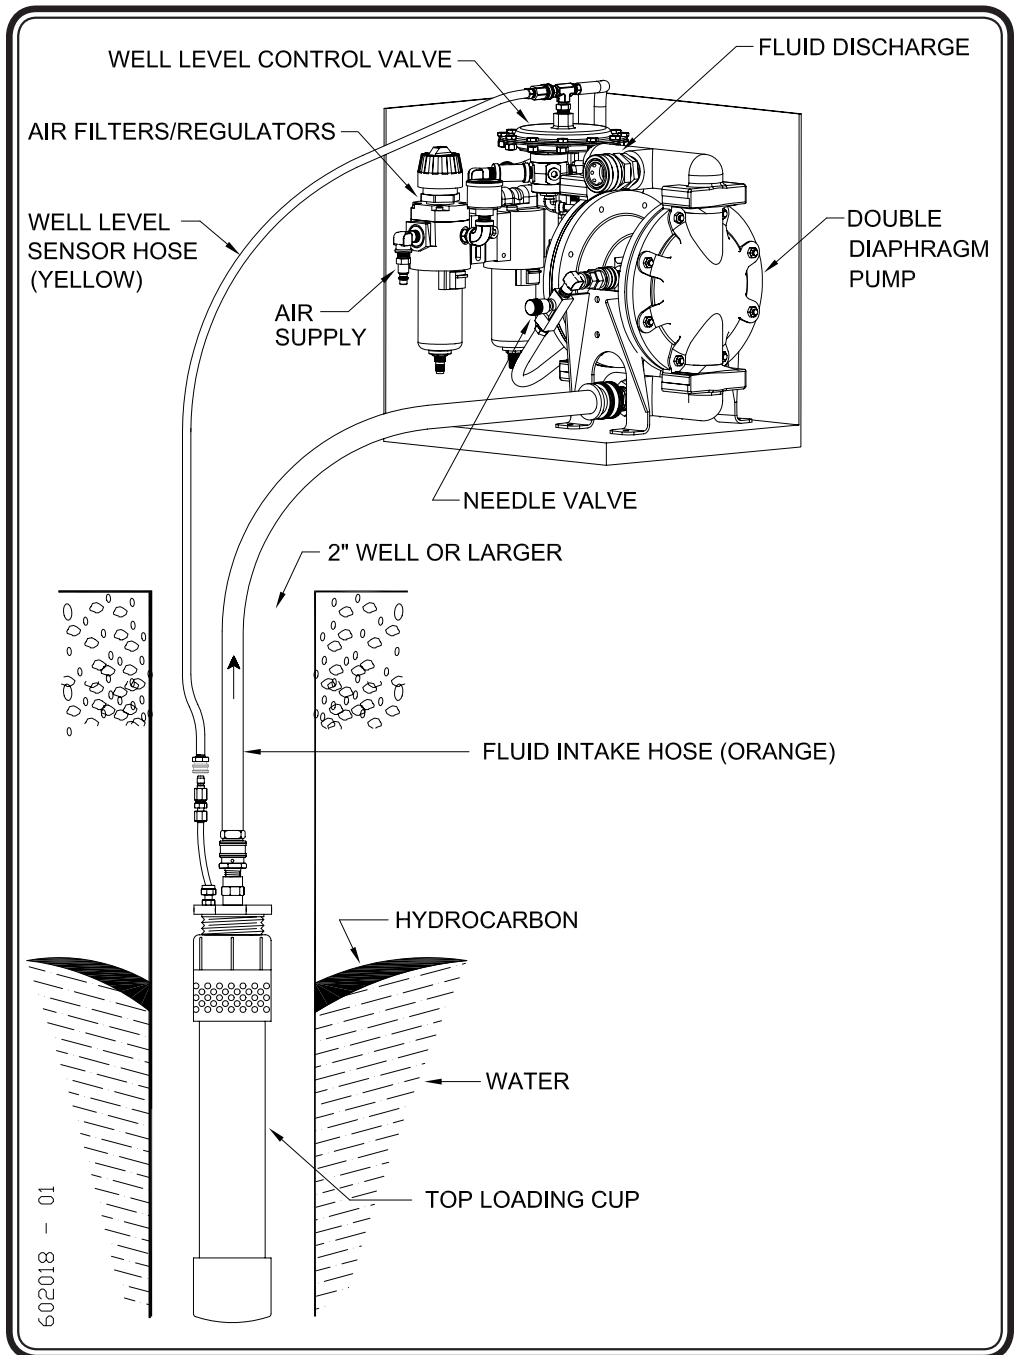

Figure 3 - ADPP System with Top Loading Cup
- The pneumatic sensor circuit has an **air bubbler** located inside the **top loading cup**. (See Figure 3)
- The **top loading cup** placed on the end of the **fluid intake hose** draws in hydrocarbon products. The **well level sensor hose** is attached to the quick connect on the **top loading cup**. (See Figure 3)
- Connect the MALE quick connect on the **well level sensor hose** to the FEMALE quick connect on the top of the pneumatic system. (See Figure 3)
- Connect the FEMALE quick connect on the **well level sensor hose** to the MALE quick connect on the **top loading cup**. (See Figure 3)
- Connect FEMALE quick connect of the **fluid intake hose** to the MALE DDP quick connect. The MALE end of the **intake hose** with **top loading cup** is positioned in the well or tank at fluid level. (See Figure 3)
- Connect the MALE quick connect of the **fluid discharge hose** to the FEMALE DDP quick connect. The FEMALE end of the **discharge hose** leads to a **fluid discharge point**. (See Figure 3).